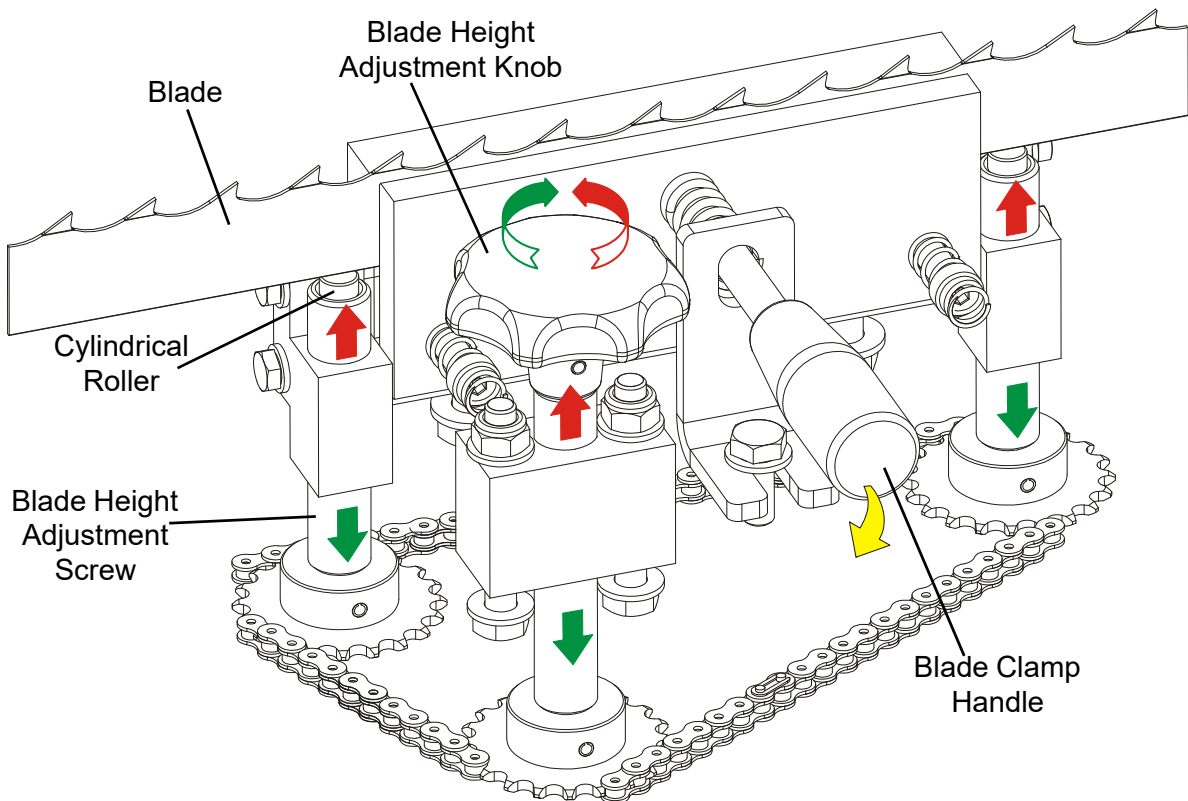

FIG. 2-3
**See Figure 2-3.** Position the blade on the cylindrical rollers of the blade height adjustment screws as shown below. Use the blade height adjustment knob to adjust the blade height.